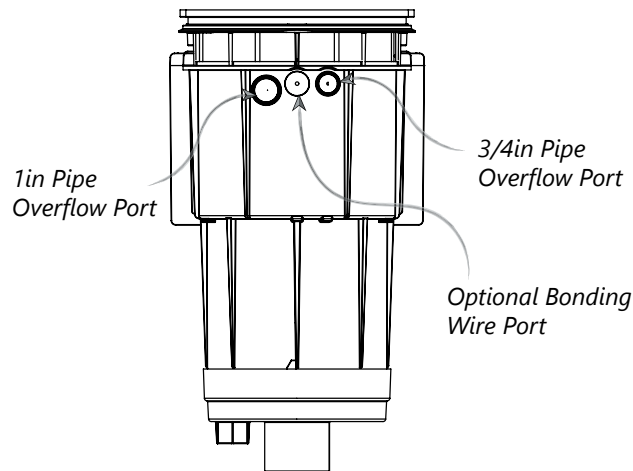

FIGURE 2: OVERFLOW PORTS
3. OPTIONAL OVERFLOW PORTS (FIG 2)